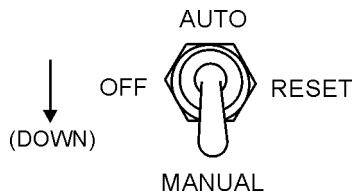

Figure 38. Off/Manual/Auto Switch (Manual)
7. Place the Off/Manual/Auto switch (Figure 38) in the **MANUAL** position (down). Observe that the engine begins to crank.